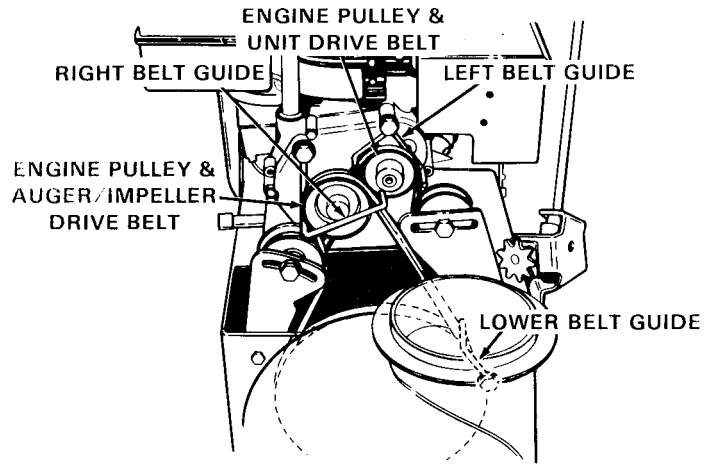

Figure 6. Drive Belt Replacement
- 3. Loosen screw holding left belt guide (figure 6).
- 4. Remove belt from pulley (figure 6). Pivot belt guide as necessary.
3. Loosen screw holding right belt guide (figure 6).